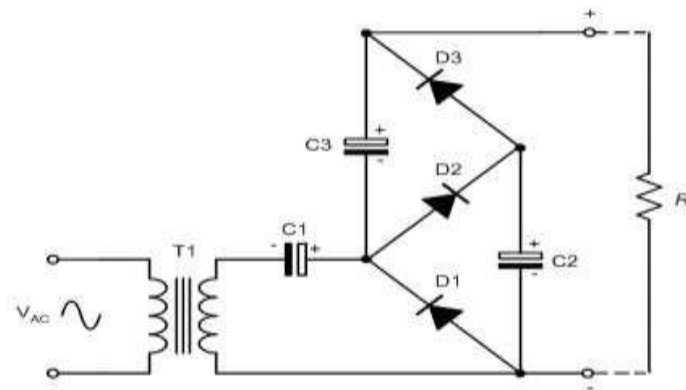

Figure 1.18 A voltage Tripler
- The voltage doubler can be extended to produce higher voltages using the cascade arrangement shown in Fig. 1.18.